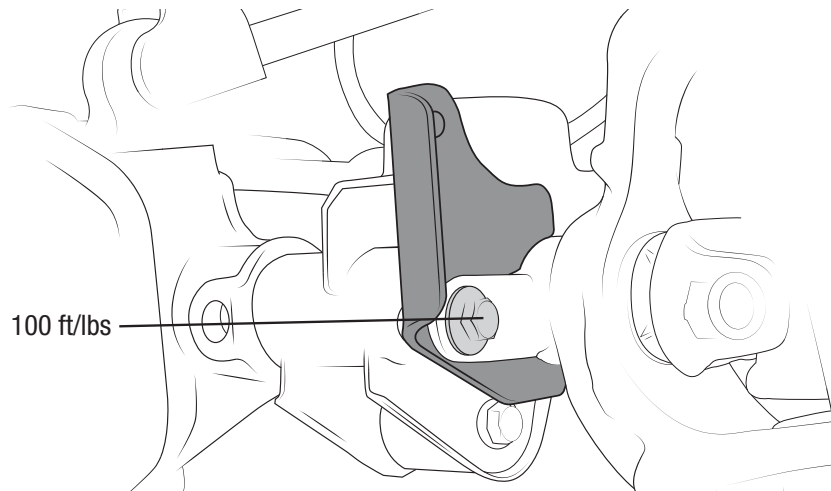

Figure 23
15. Install driver-side Swaybar relocation bracket. Position bracket over axle tube as shown (Fig. 23) Use the other supplied 1/2" x 1 1/2" bolt to attach bracket to axle and tighten to 100 ft-lbs.